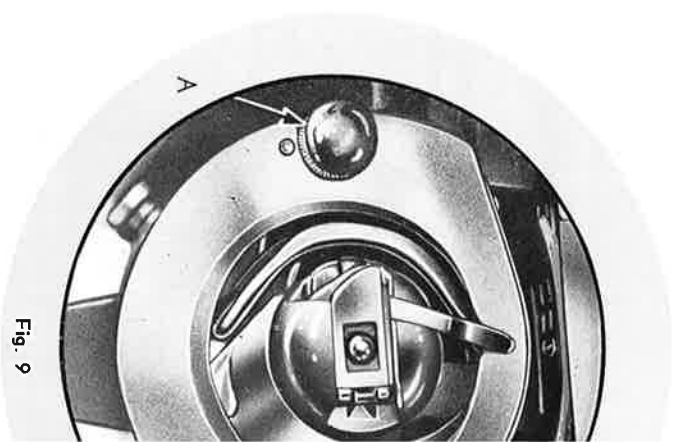

Fig. 9
2. Release the KNOBS (A) at both sides of shuttle (9) by pulling them sidewise; then take out the shuttle body with your fingers (Fig. 9).
4. Snap knobs into place as seen in Fig. 9.